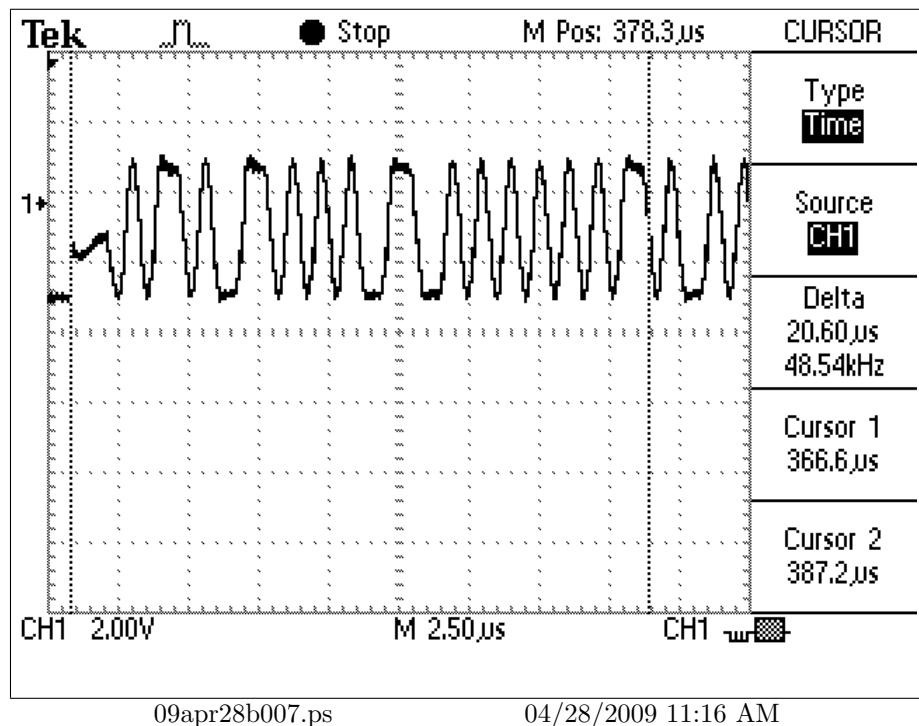
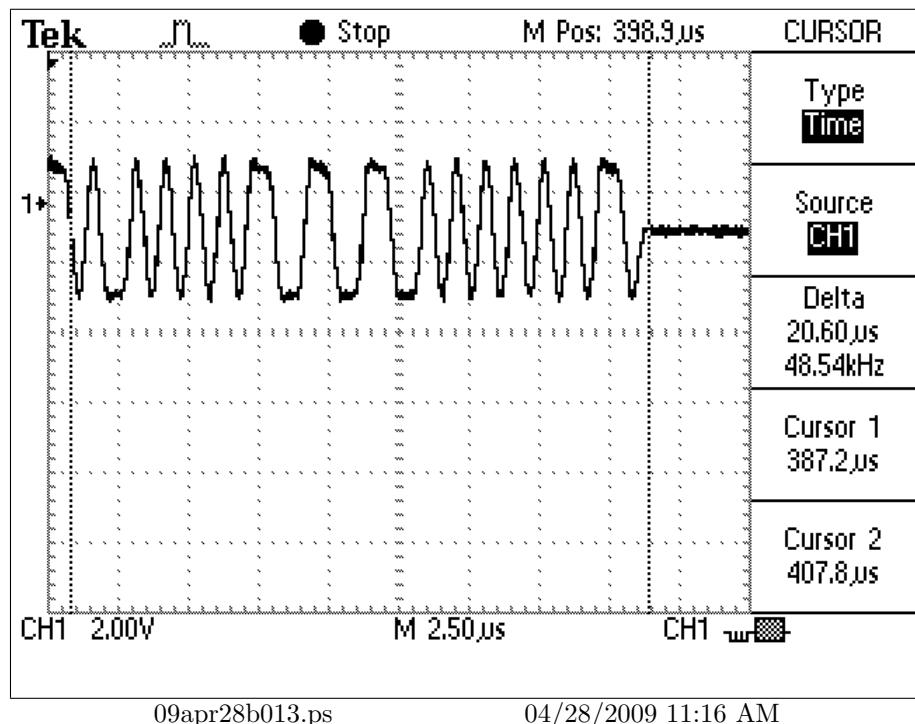

Figure 10: First 16 data bits, capture 3
Figure 11: Last 15 data bits, capture 4
- 7.1 The data appears to have 31 “semi-variable” duration pulses available on each line. (Figure 10, page 13, Figure 11, page 14)